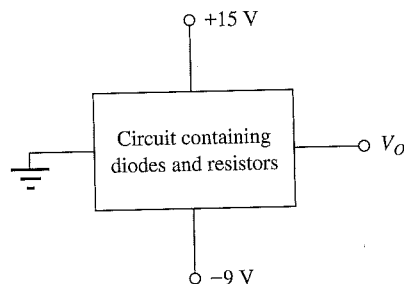

Figure 3.110
- 3.126. The circuit inside the box in Fig. 3.110 contains only resistors and diodes. The terminal V_O is connected to some point in the circuit inside the box. (a) Is the largest possible value of V_O most nearly 0 V, -6 V, +6 V, or +15 V? Why? (b) Is the smallest possible value of V_O most nearly 0 V, -9 V, +6 V, or +15 V? Why?